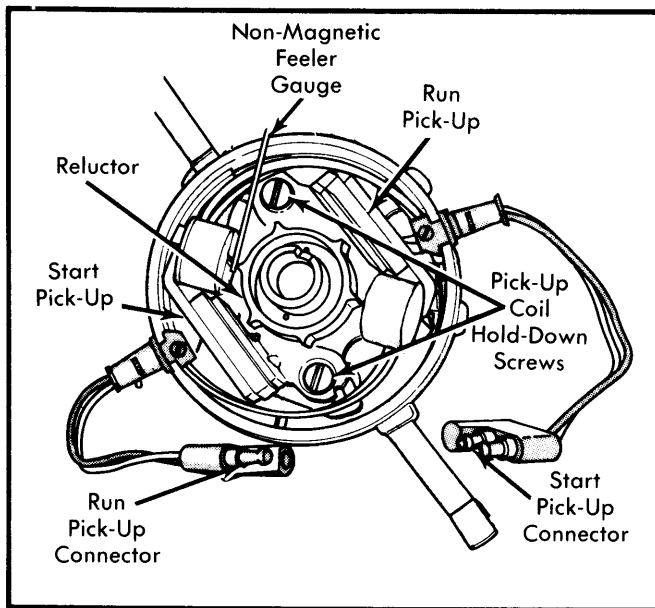

Fig. 9 Checking Distributor Pick-Up Air Gap
13) Remove distributor cap and check each reluctor-to-pick-up coil air gap for .006" clearance. If not to specification, adjust gap, using a non-magnetic feeler gauge. See Fig. 9.